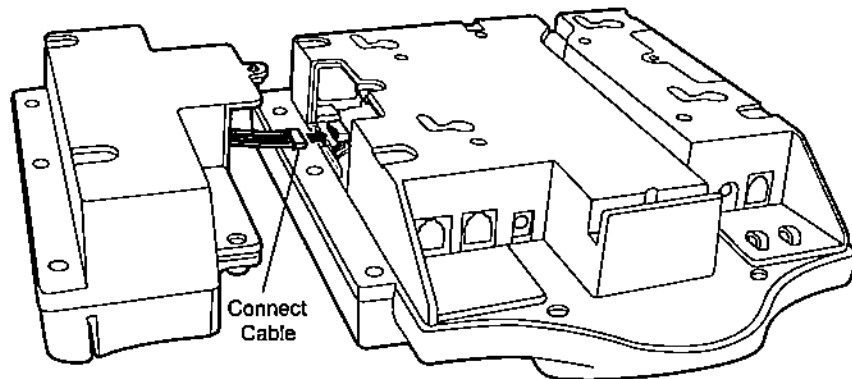

Figure 2-16. Connecting the MSR Cable to the MK2000
1. Connect the MSR cable connector to the MK2000 as shown in Figure 2-16.